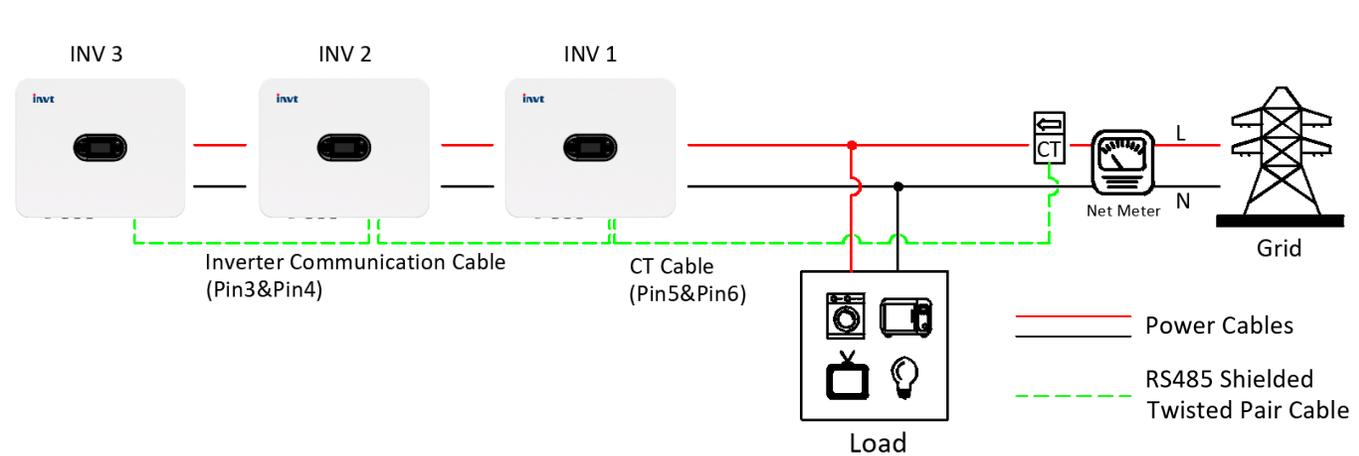

FIG.2 Multiple Inverter Export Limitation
- 4) The Inverters have to be set to different addresses in FIG.2, and the CT only needs be connected to the inverter with Address 1(Master). Other inverters communicate with the Master via Pin 3(T/R+) and Pin 4(T/R-).